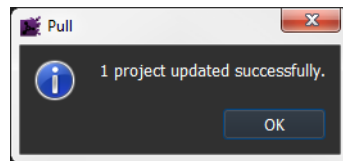

Fig. 7-20: Pull Message
- 5 When the pull is complete a 'pulled successfully' message is shown. See Figure 7-20.